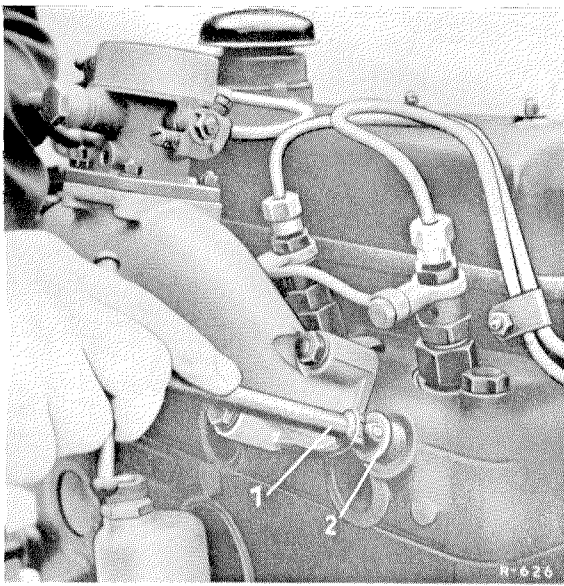

Figure 01-1/6
15. Before the installation of the glow plugs clean the glow plug holes and the holes in the pre-combustion chambers with the Reamer Part No. 636 509 03 53. To do this, fill the grooves of the reamer with grease and ream the plug holes (Figure 01-1/6).
**Note:** Regarding the OM 621, observe the distance between the parting line of the cylinder head and the front surface of the prechamber. **The distance "c" should amount to  $5.7 + 0.2$  mm** (see Figure 01-1/10). If the parting line of the cylinder head had been re-machined, do not fail to install thicker seal rings (13) between cylinder head and prechamber when installing the prechambers. Thus the measure "c" is maintained (see Figure 01-1/10).
The reamer should only be inserted approx. 55 mm, so that the ball pin in the pre-combustion chamber will not be damaged. (See Figure 01-1/9).